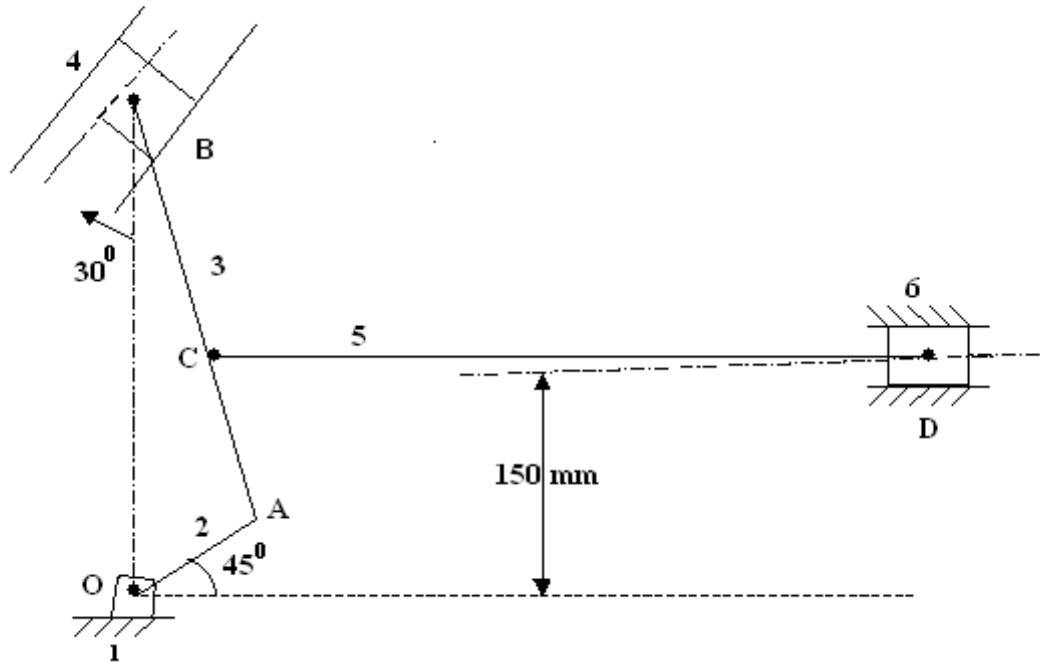

Figure 2:
4. The crank OA of a mechanism, as shown in Figure 2 rotates clockwise at 120 r.p.m. The lengths of various links are: OA = 100 mm; AB = 500 mm; AC = 100 mm and CD = 750 mm. Find by instantaneous centre method: